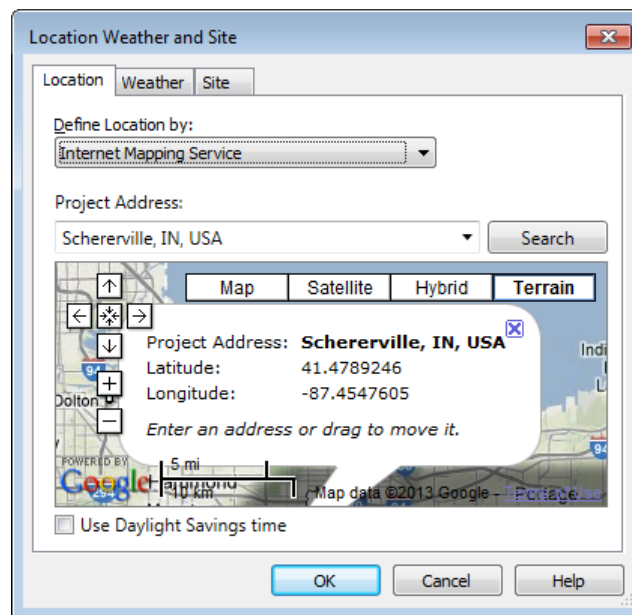

Figure 2-32 The **Location Weather and Site** dialog box
3. In the **Location** tab of the **Location Weather and Site** dialog box, enter **Schererville, IN** in the **Project Address** edit box and then choose the **Search** button; the **Google Map** browser displayed under the **Project Address** edit box shows the desired location in the map, as shown in Figure 2-32.